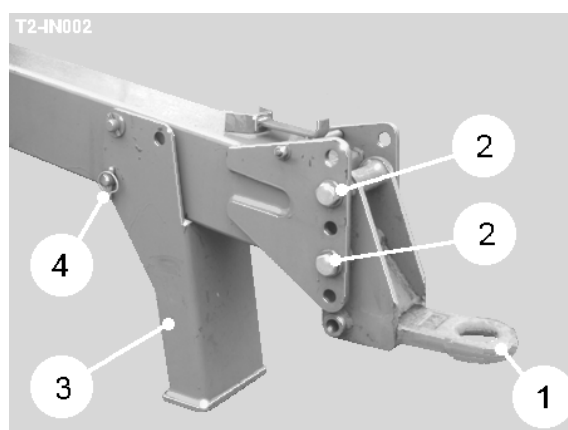

Fig 1
Raise the harvester on the pick-up hitch. The harvester chassis should be nominally level. If the chassis is in a nose up attitude or extremely nose down, the drawbar eye (item 1, figure 1) should be adjusted accordingly to compensate. To adjust the eye position, remove the bolts (item 2, figure 1) and move the eye to the required position. Refit the eye using a minimum of 2 bolts. The eye can be turned over to achieve a second range of adjustments. The stand (item 3, fig 1) is provided so that the machine is held at a suitable height for safe coupling to the tractor. When the machine has been securely attached to the tractor, the stand can be folded back into the working position by removing the pin (item 4, figure 1), rotating the stand and then re-securing with the pin.